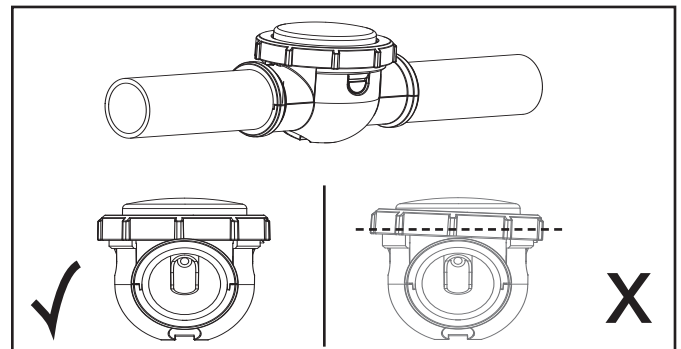

Figure 17. Winterizing Cap Installed
- Attach the winterizing cap (see Figure 17).
NOTE Ensure the locking ring is level when engaging the threading housing (see Figure 17).